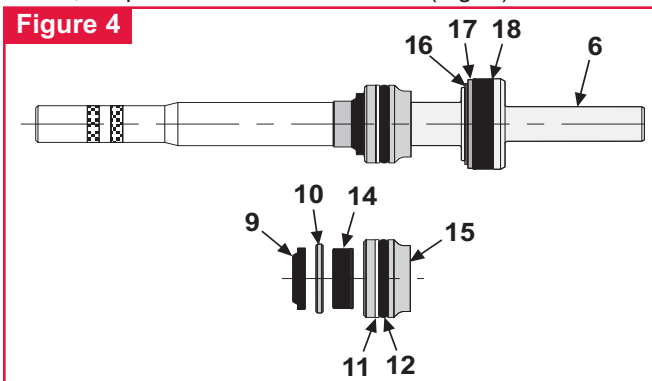

Figure 4
19. Push piston and front gland assemblies out the back of the Handle/Head (1). Allow clearance, with stand-off, for piston as it leaves the tool (Fig. 4).
20. Remove piston assembly tool and spacer from piston. Rethread on the piston assembly tool only, then slide the front gland assembly off the Piston (6) (Fig. 4).
21. Remove Piston Assembly Tool from Piston (6). Remove Polyseal Insertion/removal Tool from rear of Head/Handle (1).
22. Remove Retaining Ring (16), Washer (17) and Polyseal (18) from piston. **NOTE: Inspect hydraulic piston for wear, scoring or damage. Replace when necessary.**